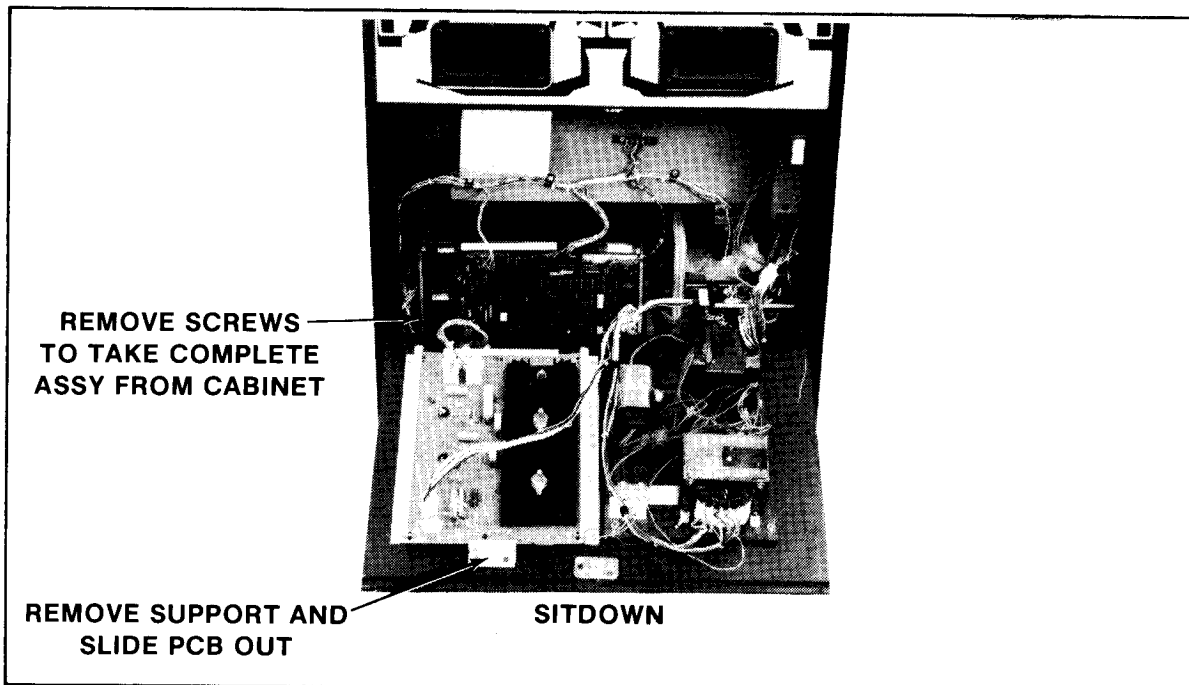

FIGURE 34
- 4. Sit Down model — See Figure 34.**
- e. Remove the screws indicated in Figure 34 and the mother board plus its mounting assembly are now free to be slid out of the cabinet.
- g. Remove the screws from the P.C.B. supports indicated in Figure 34 and then remove the supports.